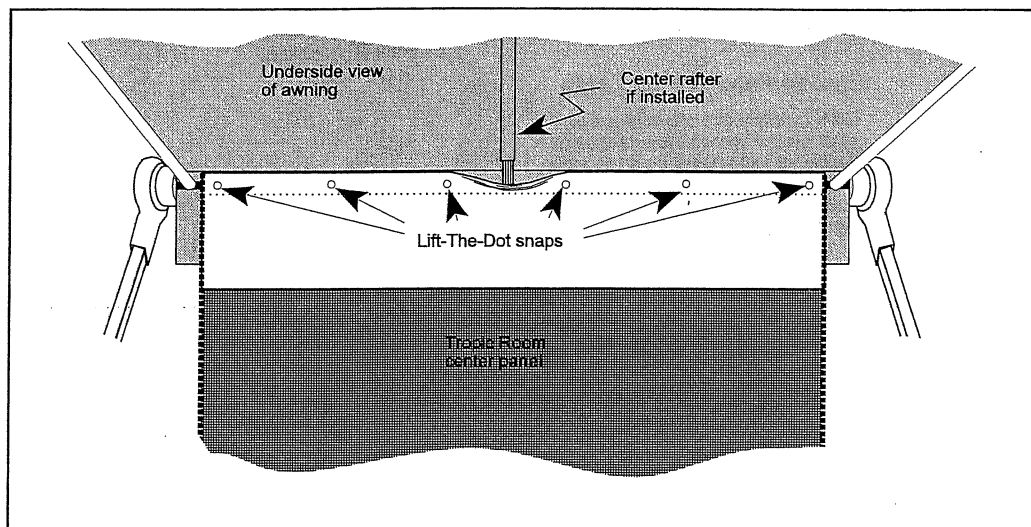

Figure 6
7. With the Tension Poles and center rafter (if any) in place as shown in Fig. 6, hold the center panel so that it is centered between the two poles. The outermost snaps of the front panel are to be installed just inside of and alongside of the Locating Plates installed in Step 1. Mark the location of a button at either end of the center panel, drill a 9/64" through the fabric and into the steel tube and install a